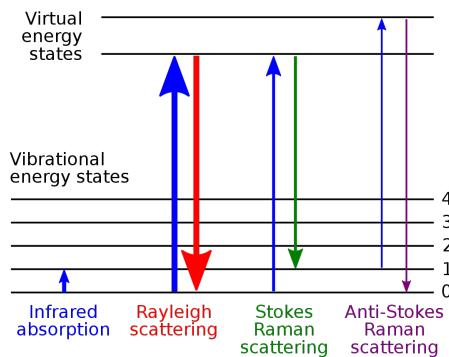

Figure 5.2: Raman spectroscopic mechanics.
- Populations are proportional to the sizes of the arrows in Figure 5.2.